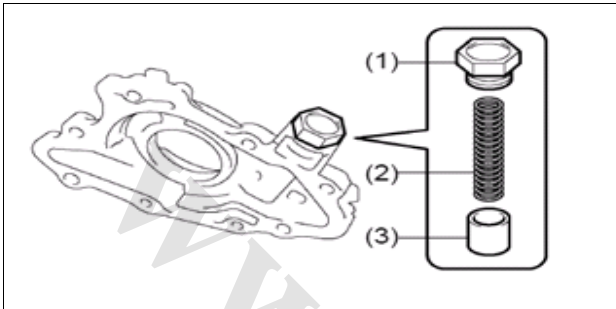

Figure 1-58-4
1. Remove the oil pump pressure-limiting valve plug, spring and locating sleeve (see Figure 1-58-4).